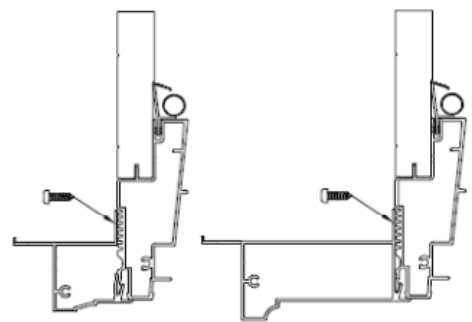

Fig. 2
6. Take the header part and apply a 1/16" bead of silicone as shown in Detail A. Apply the full length of the part. Place the brick mould in the frame groove and attach the brick mould to the frame using the #6 x 1/2" PPH TEK Screws. (Fig. 2) One 6" from the edges then 16" on center after that.
- With the header attached to the unit the side jambs need to have silicone applied, 1/16" bead of silicone as shown in Detail A. Place the side jamb in the frame groove. Fasten the header and side jamb with a #8 x 1-1/2" screws. Place the screw into the holes you have drilled on Step 4 and tighten until the header and side jamb's 45 degree angles are aligned. Attached the brick mould to the frame using the #6 x 1/2" PPH TEK screws. (Fig. 2) One 6" from the top and bottom then 16" on center after that. Apply the filler strip and nail fin.
7. Take the header part and apply a 1/16" bead of silicone as shown in Detail A. Apply the full length of the part. Place the brick mould in the frame groove and attach the brick mould to the frame using the #6 x 1/2" PPH TEK Screws. (Fig. 2 and Fig. 3) One 6" from the edges then 16" on center after that.
8. With the header attached to the unit the side jambs need to have silicone applied, 1/16" bead of silicone as shown in Detail A. Place the side jamb in the frame groove. Fasten the header and side jamb with a #8 x 1-1/2" screws. Place the screw into the holes you have drilled on Step 5 and tighten until the header and side jamb's 45 degree angles are aligned. Attached the brick mould to the frame using the #6 x 1/2" PPH TEK screws. (Fig. 2 and Fig. 3) One 6" from the top and bottom then 16" on center after that. Apply the filler strip and nail fin.